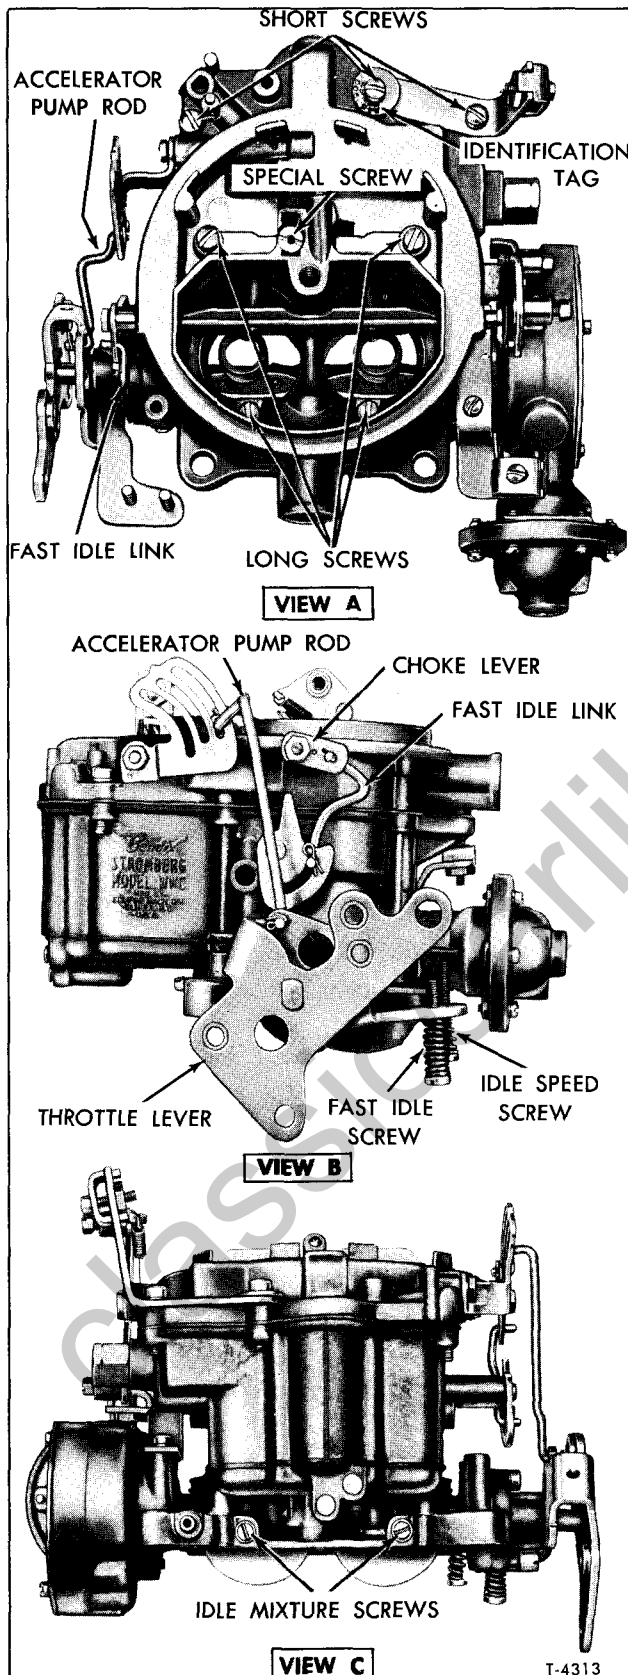

Figure 7—Bendix-Stromberg Carburetor (WWC Series)
Each carburetor has an identification part number tag on the air horn cover, next to the fuel inlet, as shown in figure 7. Before attempting to repair a carburetor, refer to the identification number and secure the correct repair kit.
6. Adjust the idle mixture screws (fig. 7). With engine running and idling speed set, turn each mixture screw "in" until engine begins to slow down or run unevenly, then back out screws until engine runs smoothly with highest vacuum gauge reading.
The fast idle mechanism is used to provide increased engine speed when choke valve is not fully open. Fast idle screw is shown in figure 7. The link installed between choke valve lever and